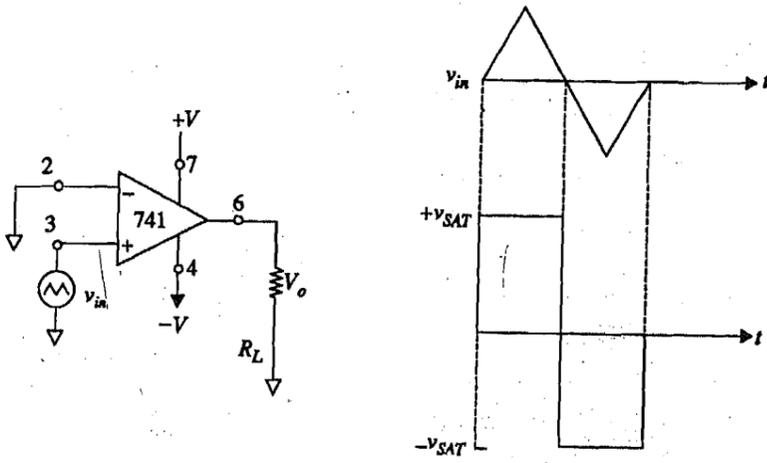

Fig.7.20
5) The circuit for this question and the output waveform are as shown in Fig.7.20.